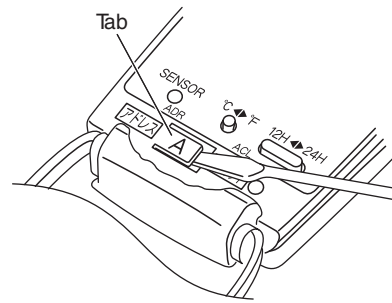
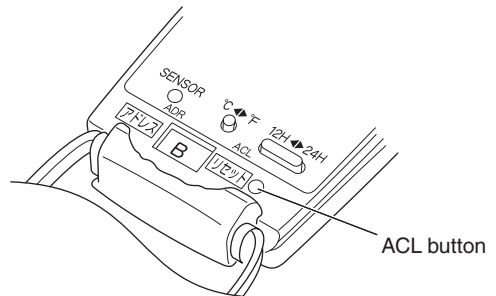

Fig. 1
Fig. 2
- (1) Switch on the power source.
- (2) Break the address-setting tab marked "A" on the second remote controller to change the address (Fig. 1). When the tab is removed, the address is automatically set to B (Fig. 2).
- (3) Press and hold the remote controller HIGH POWER button and 1 HR TIMER button. Then, press and hold the ACL (reset) button with a pointed object such as the tip of a pen. After 5 seconds, release ACL button first, then release HIGH POWER and 1 HR. TIMER buttons, "oP-1" (test run) appears, blinking in the remote controller clock display area.